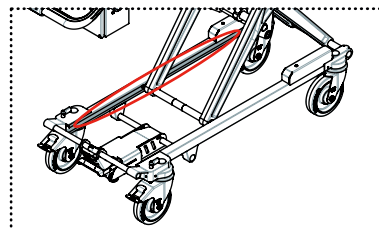

FIGURE 2
- ☐ Clean the guides on both sides and renew the lubrication with Vaseline (see Fig. 2). IMPORTANT: after greasing, always clean the excess.